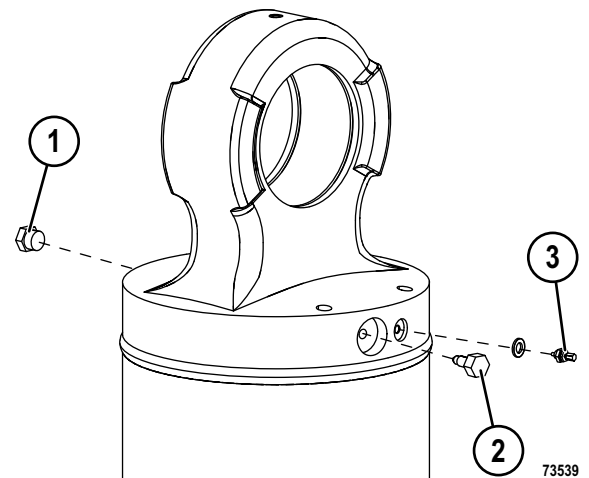

FIGURE 4-11. REAR SUSPENSION PORTS
6. Remove the vent plug (1, Figure 4-11), pressure sensor (2) and charging valve (3).